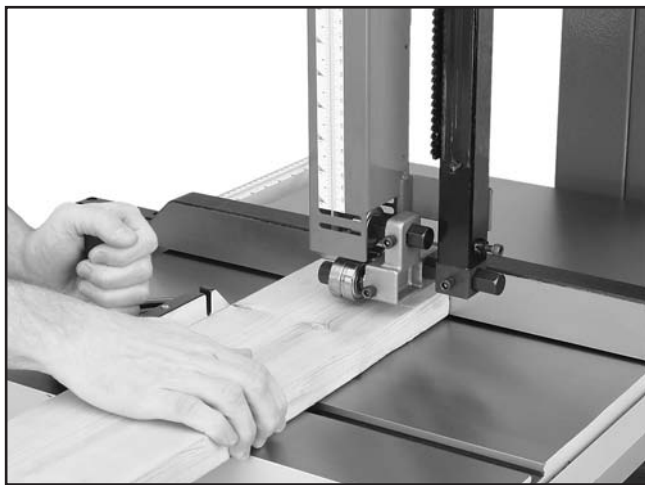

Figure 75. Crosscutting with miter gauge.
5. After all safety precautions have been met, turn the bandsaw **ON**. Slowly feed the workpiece into the blade and continue the cut until the blade is all the way through the workpiece. **Figure 75** shows a typical crosscutting operation.